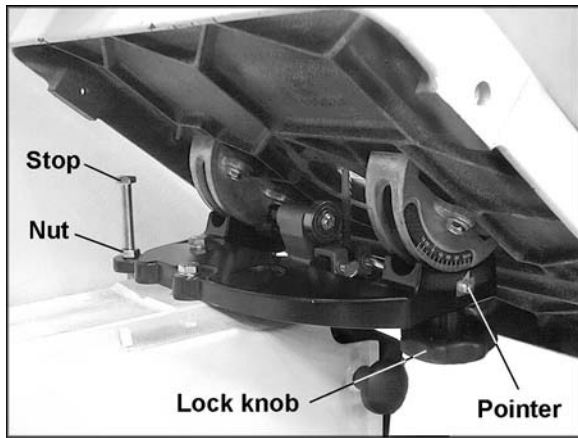

Figure 26
- Loosen two lock knobs (Figure 26).
- Tighten two lock knobs (Figure 26).
2. Loosen lock knobs (Figure 26) and tilt table left until it rests against the table stop.
5. Loosen jam nut and turn table stop (Figure 26) left or right to raise or lower the stop. Tighten jam nut to hold table stop in place.